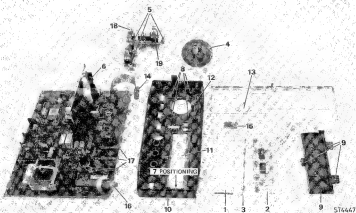

Fig. 5.4. Front assembly
Liquid crystal display (Fig. 5.4. item 1), display unit N4 (Fig. 5.4. item 2), interconnection rubber (Fig. 5.4. item 3) or function knob (Fig. 5.4. item 4).
- Remove the three screws which attach N3 to the front (Fig. 5.4. item 5).
- Remove the function knob by bending out the four hooks of the front plate (only for replacing the function knob) (Fig. 5.4. item 8).
- Remove the three screws from the display unit cover and the cover itself (Fig. 5.4. item 9).
NOTE 1: Make sure that the L.C.D., the display unit cover and the interconnection rubber are placed in the most right hand position (Fig. 5.4. item 7).
Function switch (Fig. 5.4)
- Bend out the two hooks and remove the printed-circuit board (Fig. 5.4. item 6).